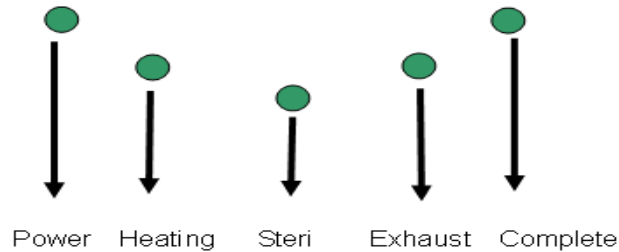

Figure 18
G.4 Press the START Button  and the sterilizer will automatically run through the selected program. The current progress of the sterilization cycle is indicated by the illuminated LED on the Process Status Indicator. (Figure 18)